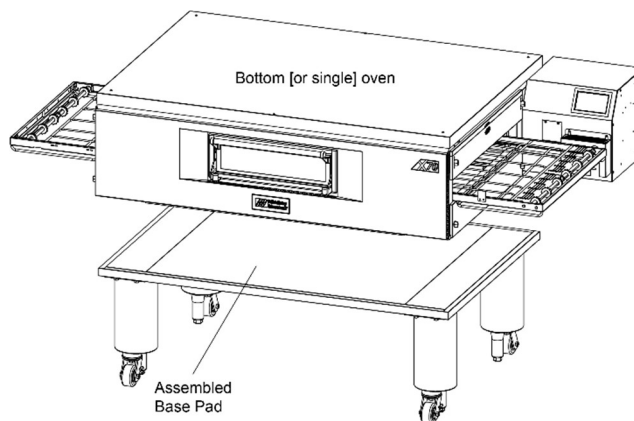

Figure 17. Base Pad Installation
3. Orient the base pad assembly such that the restraining clip is in the rear. Install the lower oven cavity onto the base pad. See Figure 17.